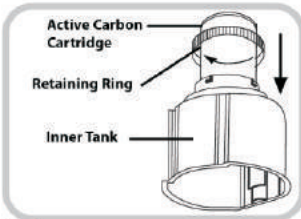
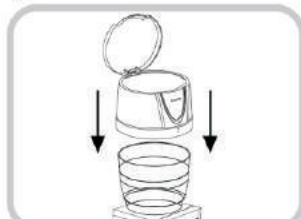
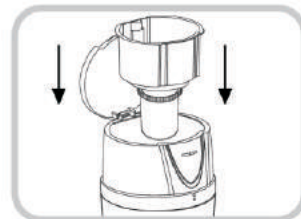

Fig.8
Fig.9
Fig.10
- To install the Active Carbon Filter turn the Inner Tank upside down. Make sure the Large O Ring sits on top of the filter and place it on the Inner Tank. Slide down the Retaining Ring and align the pegs with the openings of the Inner Tank base. Turn it clockwise to secure the filter. (Fig. 8). Place the Upper Barrel on top of the Lower Barrel by aligning the edges of both parts (Fig. 9). Slide the Inner Tank with the filter attached into the Upper Barrel (the top edge of the Inner Tank will sit on the top edge of the Upper Barrel). (Fig. 10).